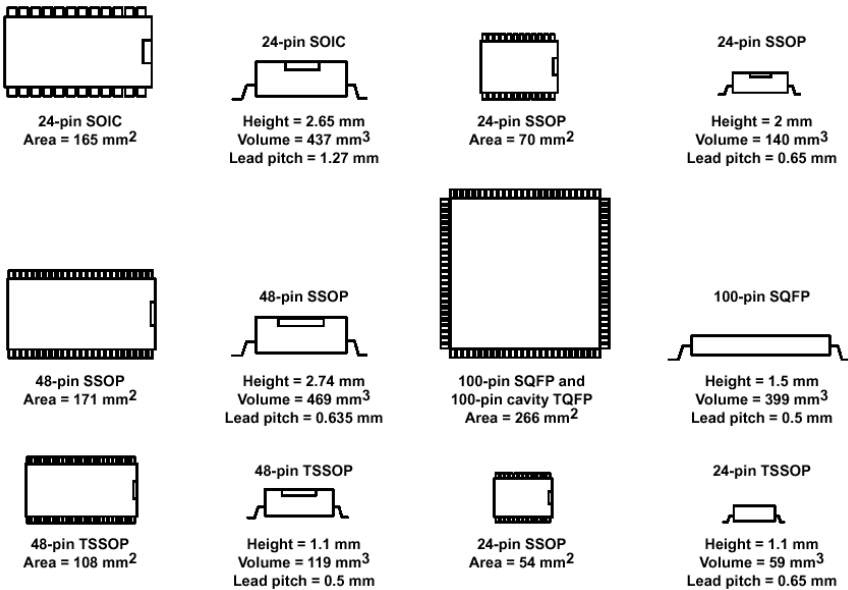

Figure 7.7 Advanced Packaging
- Figure 7.7 explains part of the reason for increased attention to thermal issues. As a baseline for comparison, the 24-pin small-outline integrated circuit (SOIC) is shown, along with several fine-pitch packages, including the 24- and 48-pin SSOP, 24- and 48-pin TSSOP, and 100-pin thin quad flat pack (TQFP).